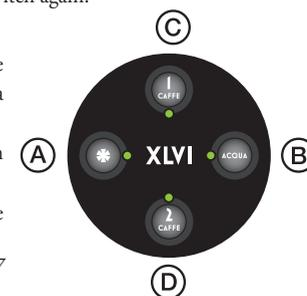

Fig.7
- To dispense water through the groups in the electronic version press the button (A) on the push-button panel (fig.7). The button (A) acts as a switch to both dispense continually and stop dispensing.
- To dispense steam lower the levers (7). When you want to stop the steam return levers (7) to their starting position.
- To dispense water in the electronic version press the button (B) on the push-button panel (fig.7).